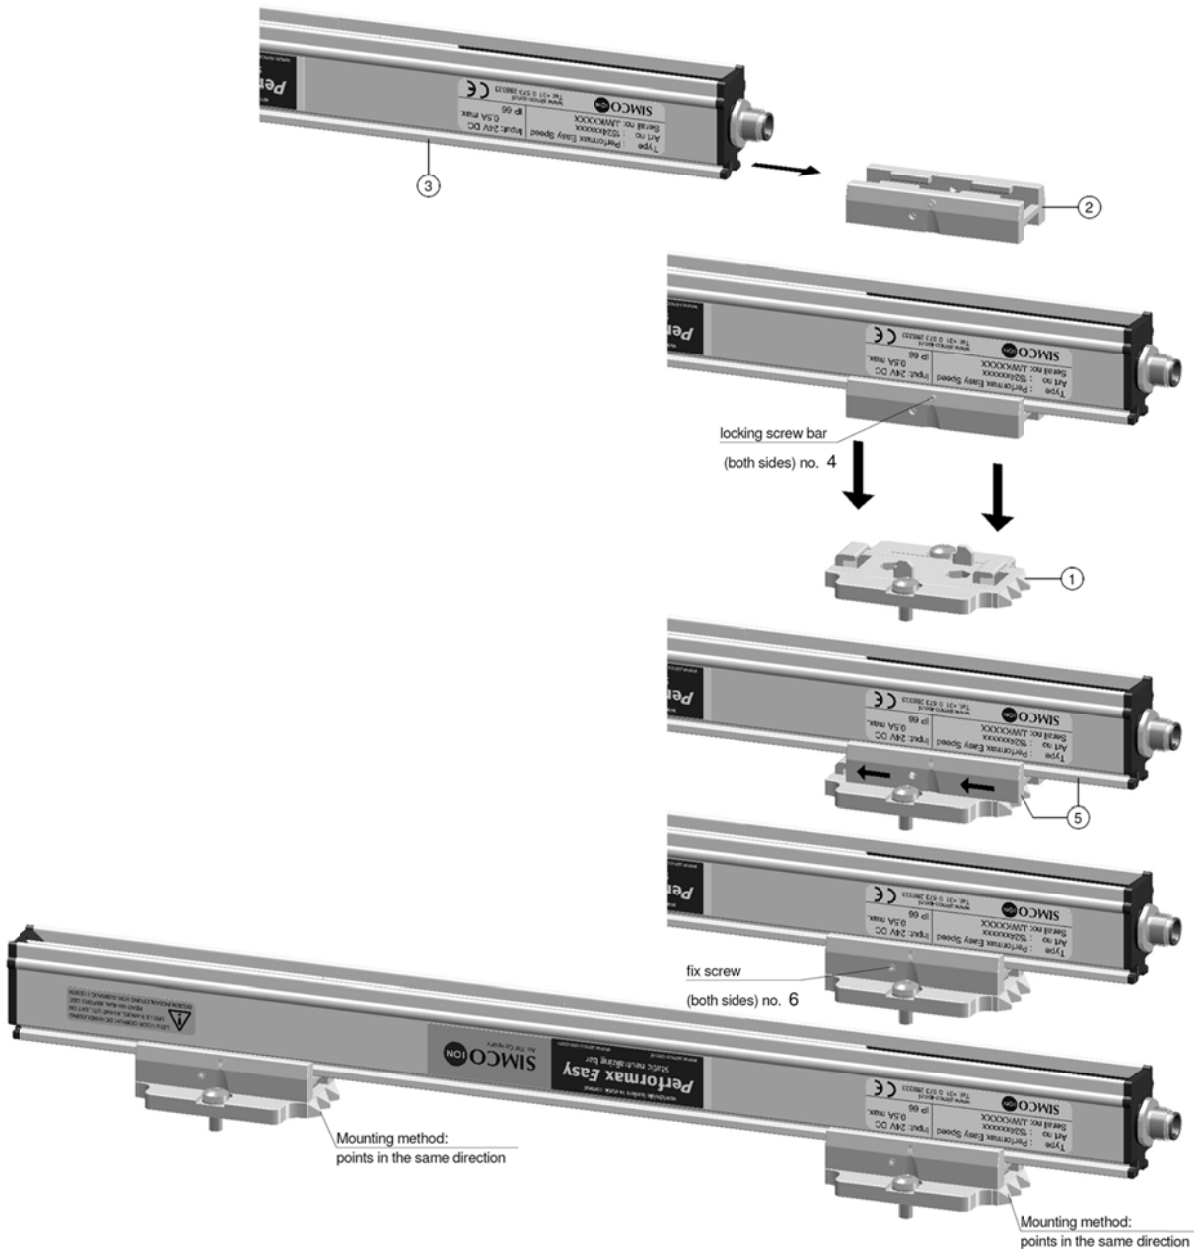

Figure 5: Mounting Performax Easy and Performax Easy Speed
- Attach the wiring as shown in Figure 5.